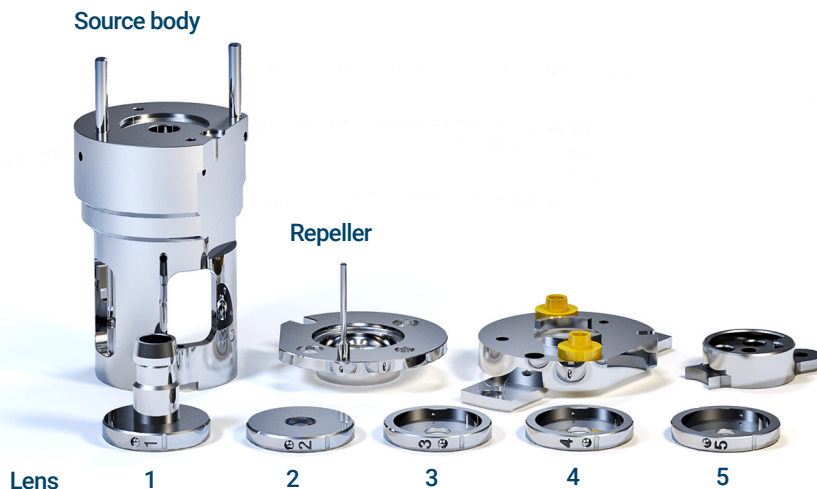

Figure 26. LE-EI ion source parts to be cleaned
- 2 Collect the following parts to be cleaned: (See **Figure 26**, “LE-EI ion source parts to be cleaned,” on page 99.)
- Extractor lens (5)
- Post extractor lens 1 (4)
- Post extractor lens 2 (3)
- Ion focus lens (2)
- Entrance lens (1)